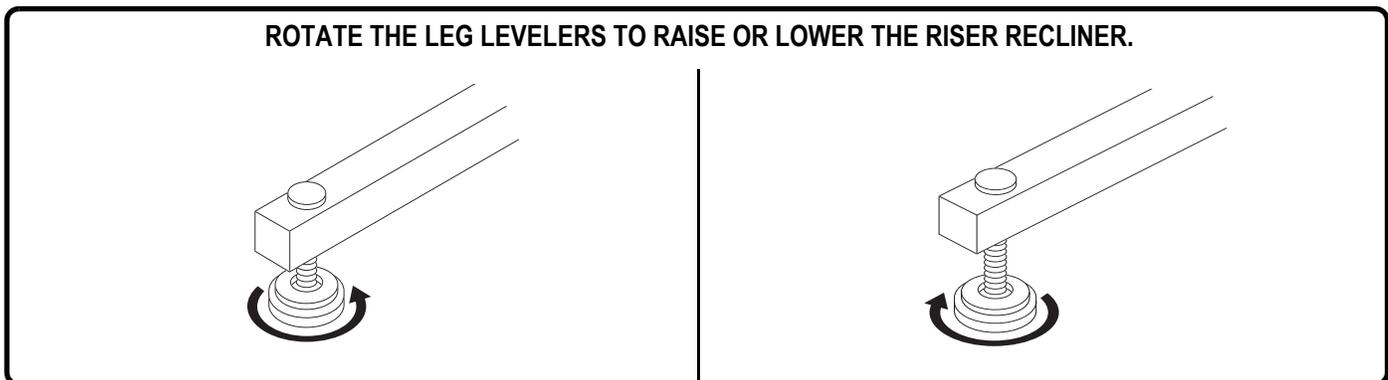

Figure 3.3 Leg Levelers
Leg Levelers: Manually rotate up or down in order to stabilise the recliner before use (Fig. 3.3).
2. Adjust the leg levelers to stabilise the riser recliner (**Fig. 3.3**).